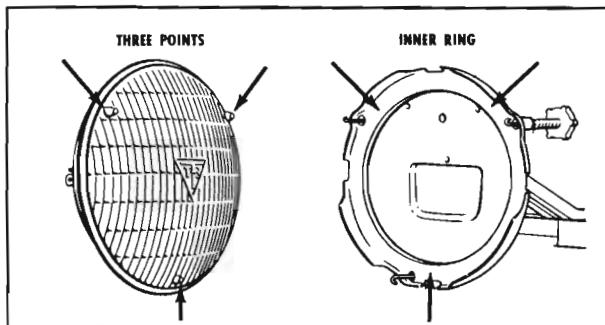

Figure 10-57—Mounting Aimer on Headlamp
3. Mount the aimers on each headlamp so that points engage smooth inner ring of aimer. Be sure to mount left hand aimer (with string) first. See Figure 10-57.